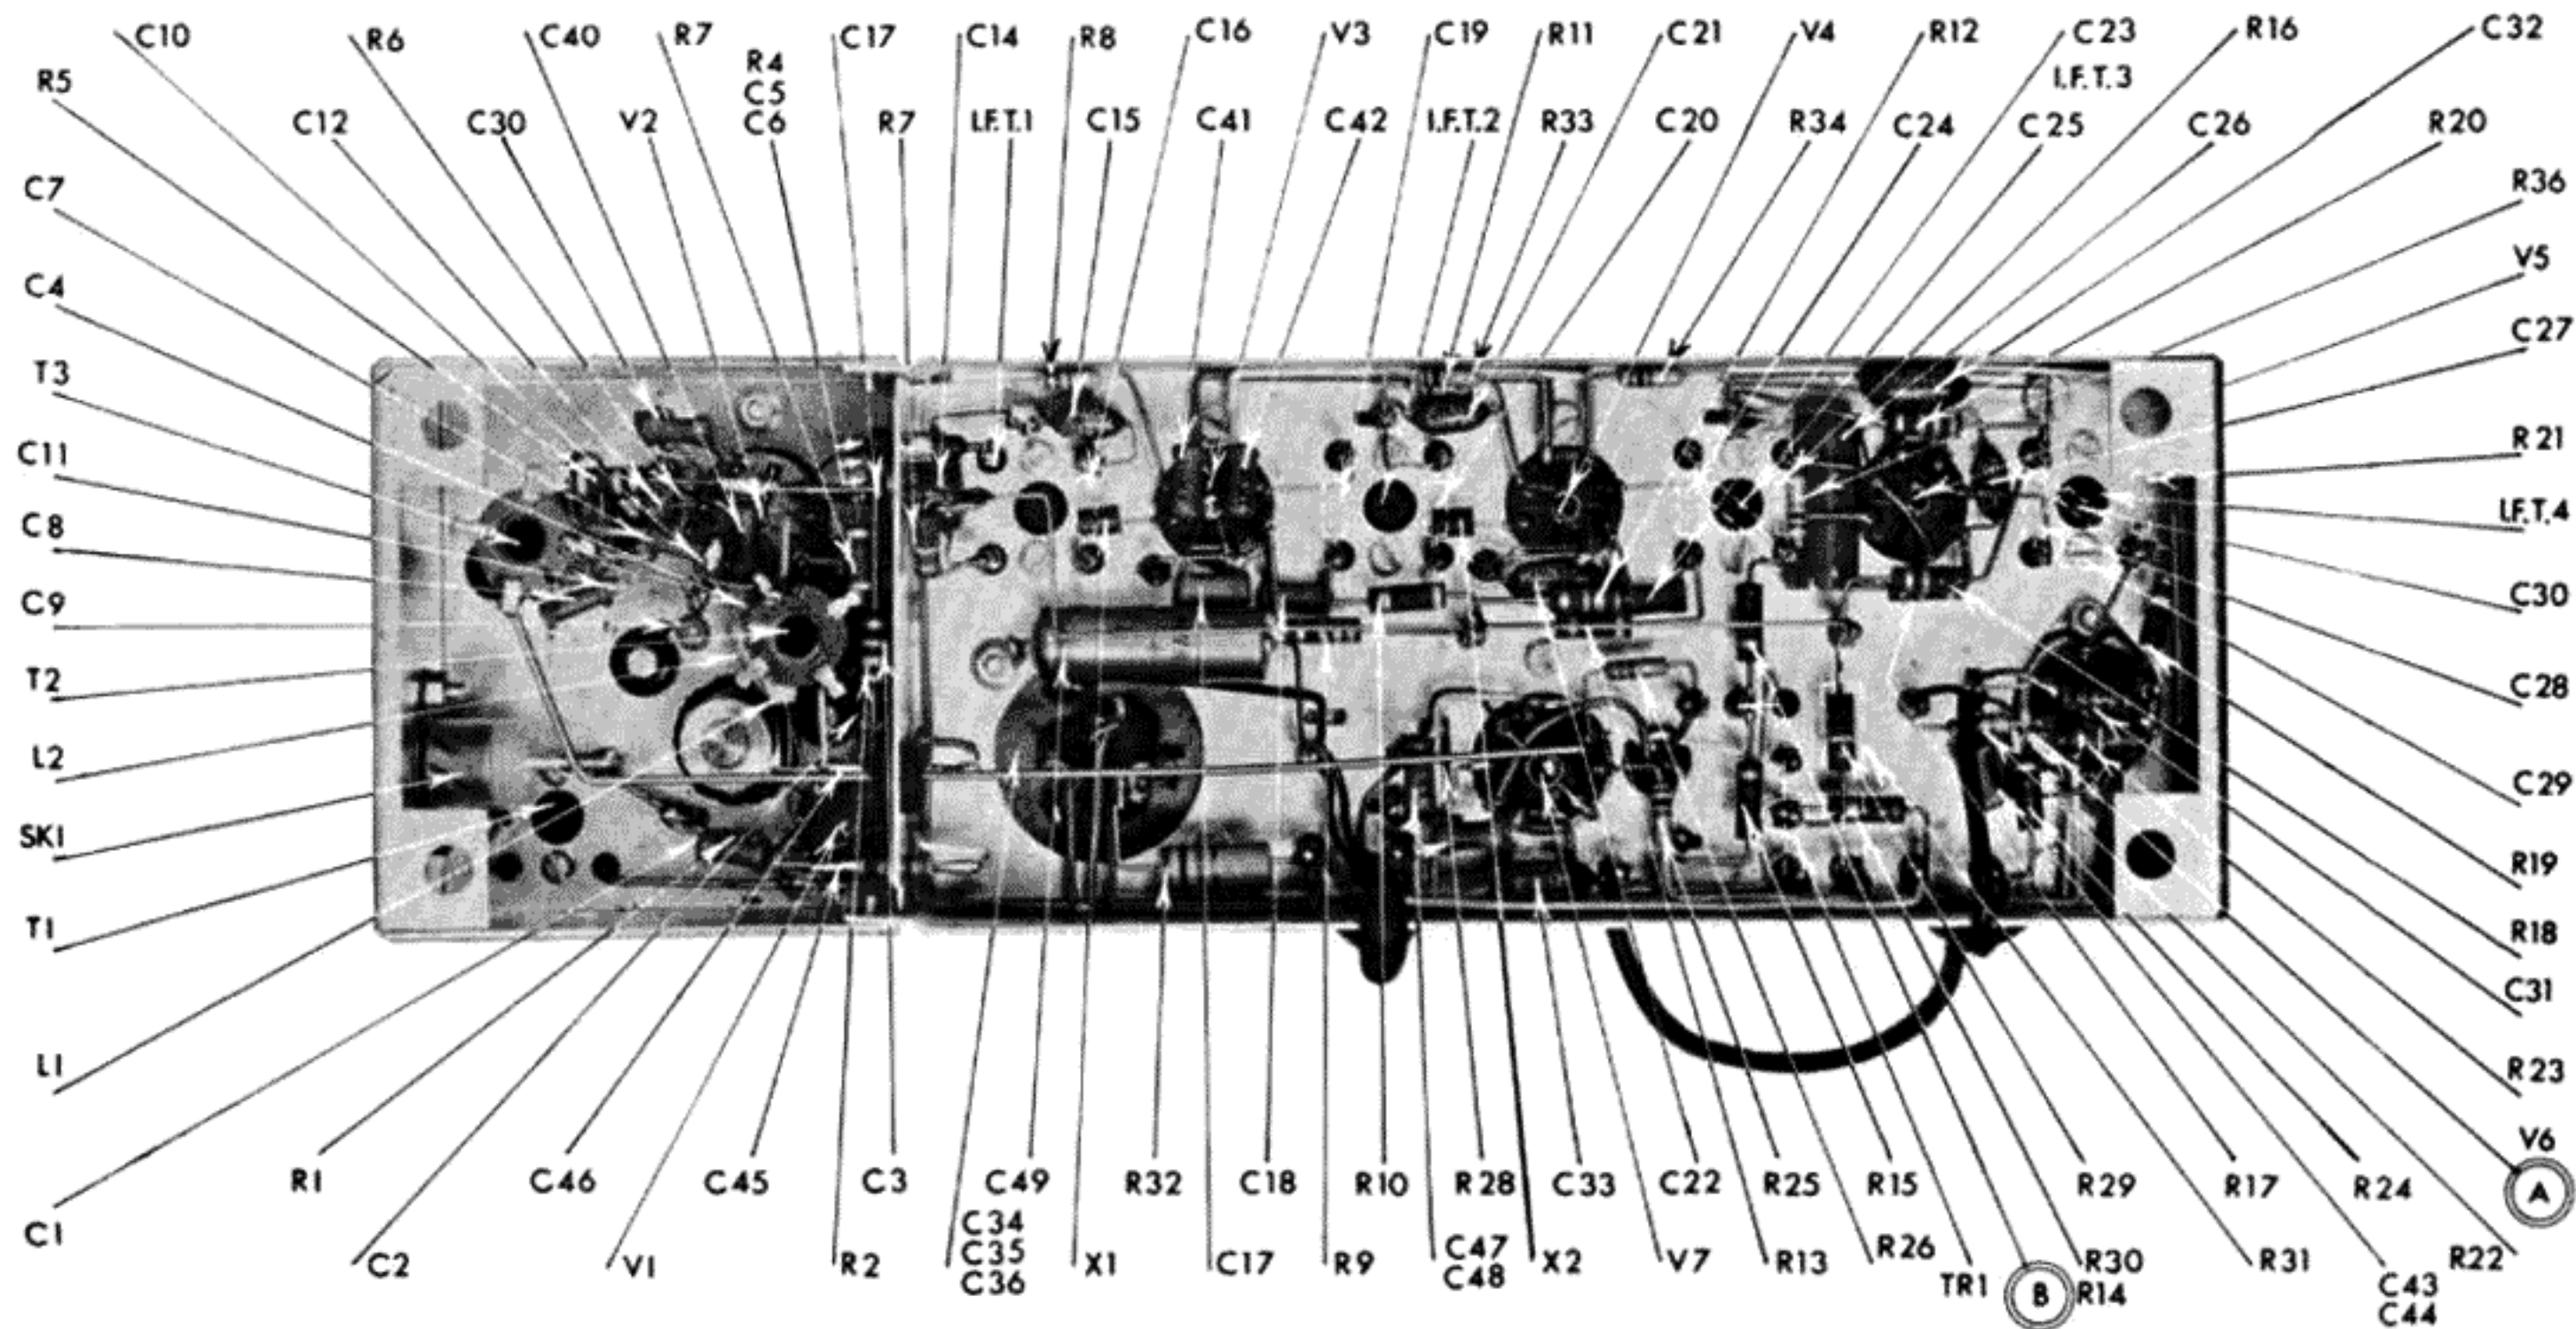

FIG. 2
- (5) Remove the baseplate by withdrawing the 4 screws (G). The underchassis layout is shown in Fig. 2.
I.F. ALIGNMENT (see Fig. 2)